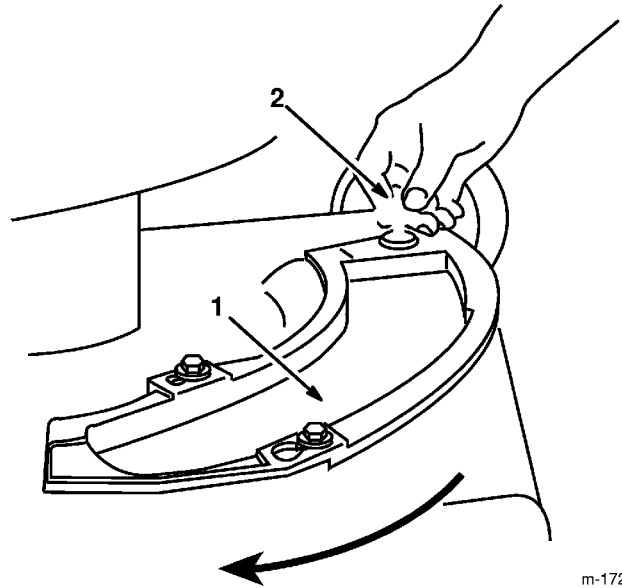

Figure 36
2. Remove knob that fastens cover plate to housing (Fig. 36).
3. Two shoulder bolts on housing protrude through slotted holes in cover plate and do not have to be loosened or removed. Cover plate moves over shoulder bolt heads (Fig. 36).